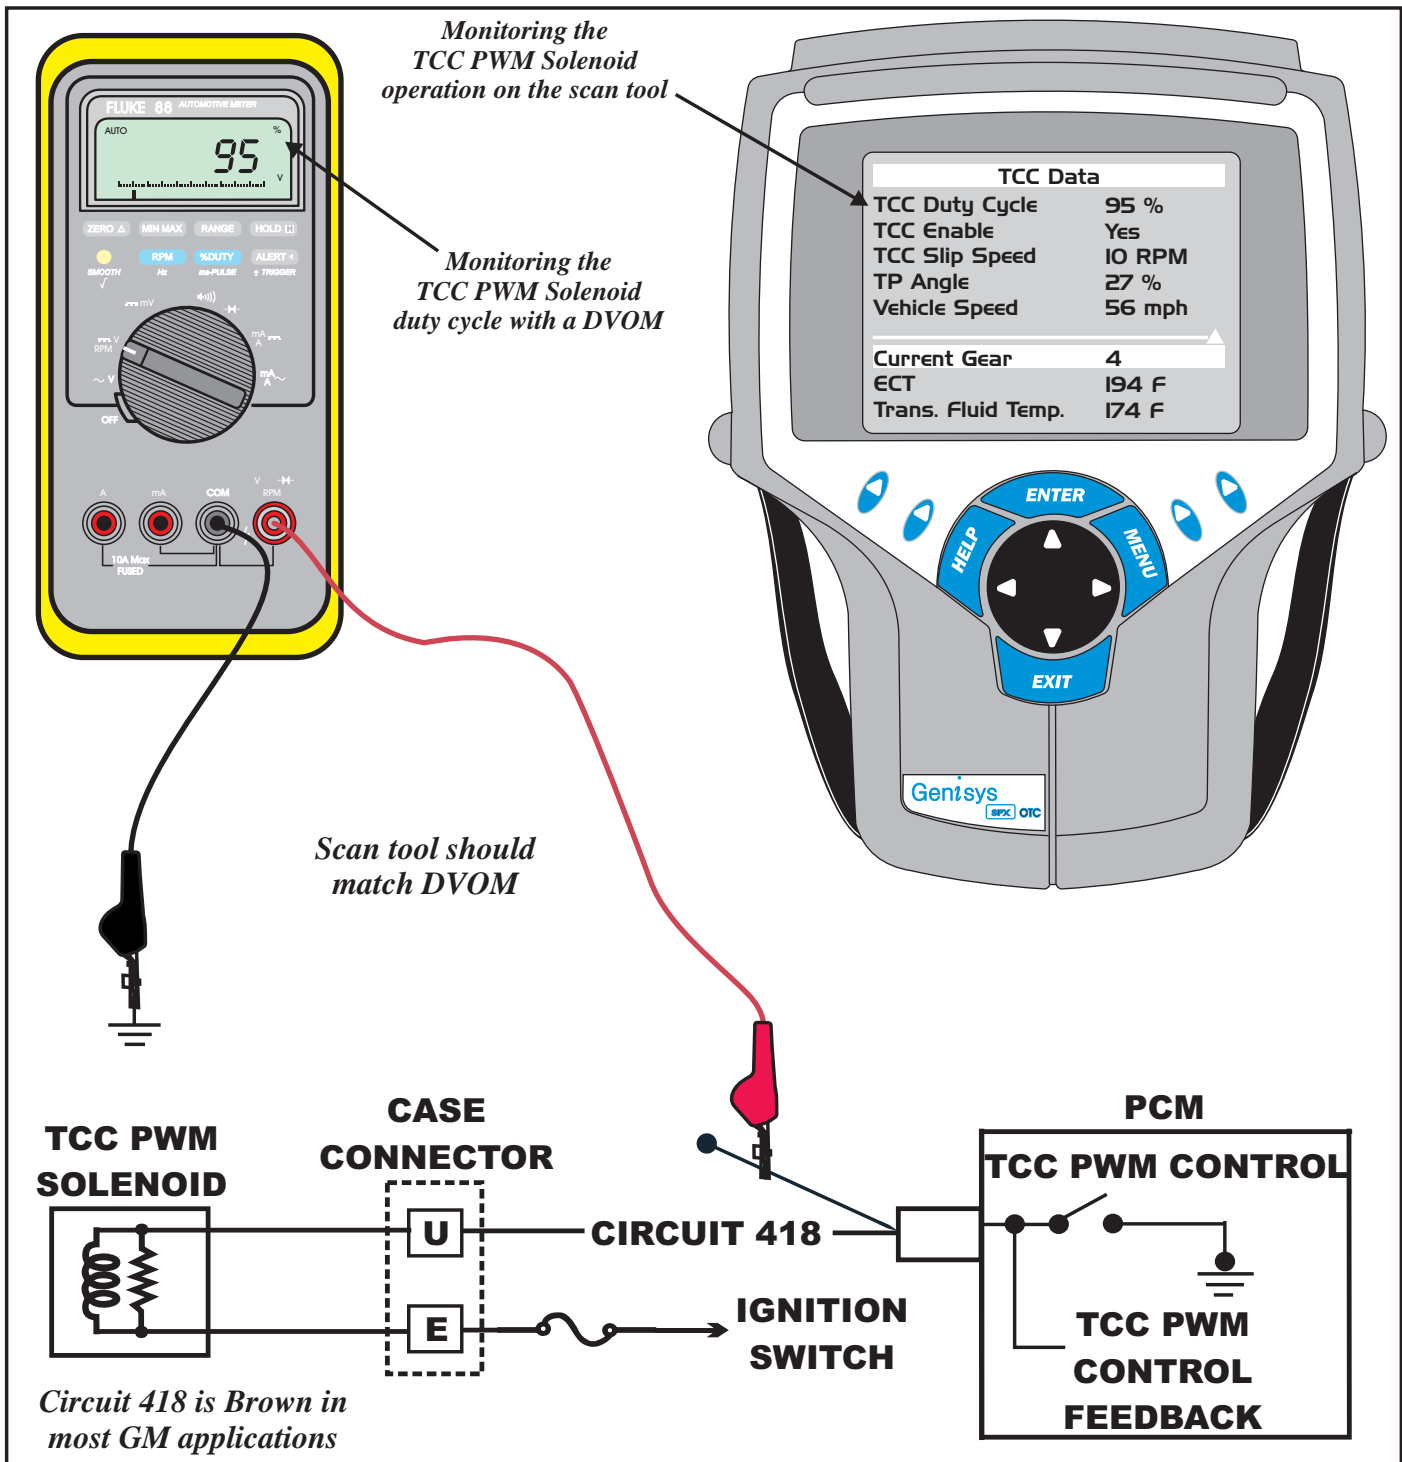

Figure 115
- The operation of the TCC PWM Solenoid is displayed on the scan tool as percentage of duty cycle. A DVOM set to the duty cycle position can be used to see actual duty cycle and the compare it to the same scan tool parameter to insure the scan tool is telling the truth as seen in Figure 115.
- Either check the current flow on the circuit with a low current clamp, or, cut the wire and place your meter in the circuit, or use some type of device that is capable of inducing a load on the wire such as a headlamp, crude as this may be, it works. ADVOM set to Duty Cycle (%) will also work well as seen in Figure 115.
- The PWM 3-2 Solenoid can be checked on the scan tool by viewing the percentage of duty cycle or with a DVOM voltage setting or with it set to duty cycle similar to the illustration in Figure 115.